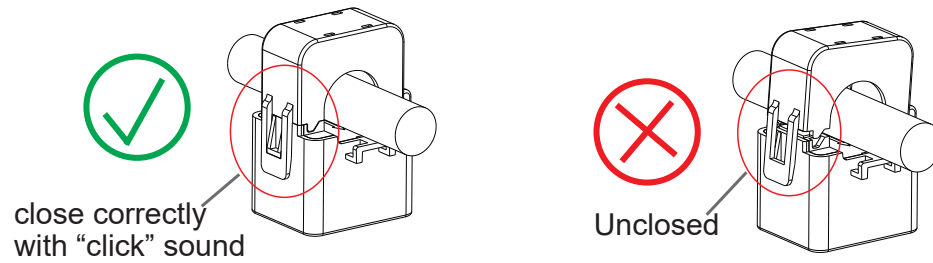

Figure 30: Check the CT is closed correctlyWiring steps
4. Fit the L1 and L2 CTs around their respective conductors, close CTs with hearing “click” sound, check the CT is closed correctly. (Figure 30)